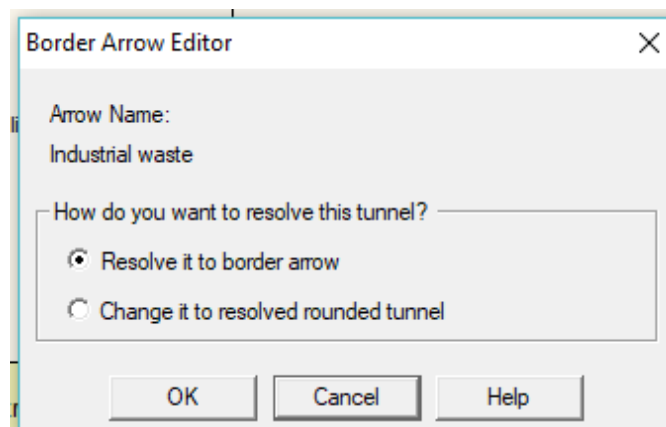

Fig. 2.8. Border Arrow Editor dialog box
5. Click **Resolve it to border arrow** (fig. 2.8) button in the **Border Arrow Editor** dialog box to migrate the arrow to the high level diagram or click **Change it to resolved rounded tunnel** button to tunnel the arrow.